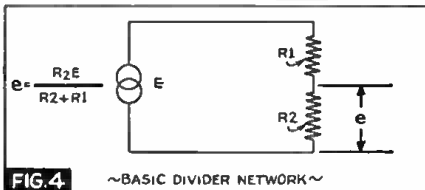

FIG. 4 ~ BASIC DIVIDER NETWORK ~
(FIG. 4.) SHOULDER STRAP ON "PERSONAL" RADIO SET USED AS LOOP ANTENNA
Because of the fact that the loop is flexible and may assume different shapes, it is not practicable to tune it. Its inductance changes with its shape. Also, to prevent it from having serious detuning effect on the input tuned circuits of the set, it is loosely coupled to the input. Inductive coupling is necessary to prevent capacity effects of the loop which will vary widely in use. The loop and input circuit are shown in Fig. 4.
With the above phenomenon kept in mind, a review of fundamental balancing circuits will further simplify the operating principles of the dynamic balancer. If an A.C. generator E is applied to a series resistive network R1, R2, as illustrated in Fig. 4, the voltage (E) appearing across R2 is equal to